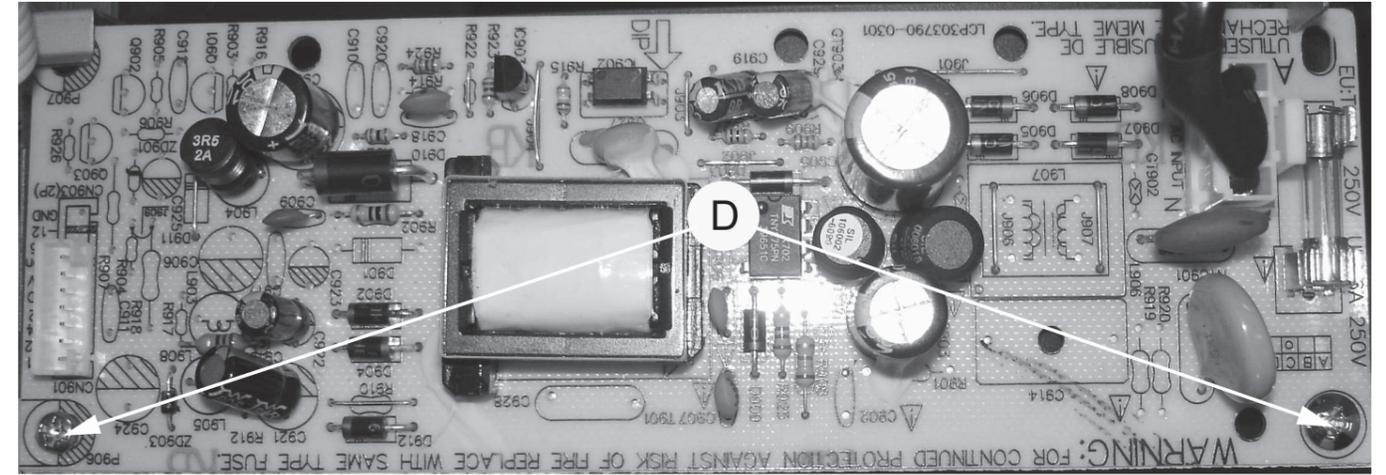

figure 4
1) Loosen 2 screws "D" at the Power Board as shown in figure 4 to remove the Power Board.